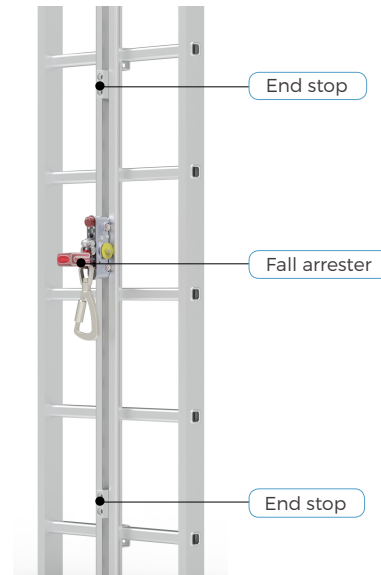
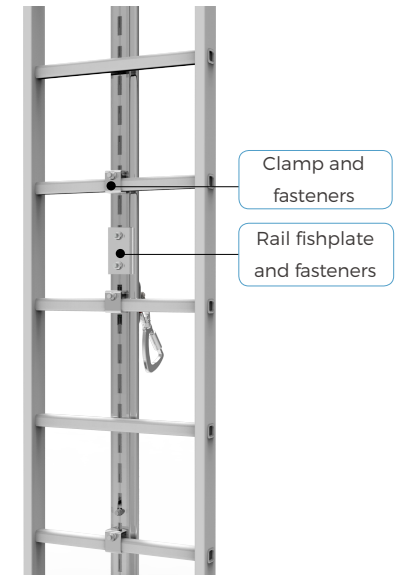

Fig. 2.2
Fig. 2.3
2.2 Rigid guide rail lifeline is shown in Fig. 2.2 and Fig. 2.3.